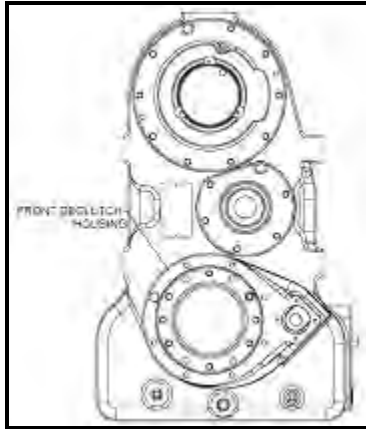

Figure 79
- Position the front declutch housing on the transfer case such that the shifter shaft bores are directly to the left of the lower shaft bore (as viewed when the unit is installed in the vehicle). See **Figure 79**.
installed in the vehicle as in **Figure 79**. Install the ten cap screws and washers to secure the carrier to the TC housing. Torque to specification.
- Position the transfer case with its front end (name plate) upward. The front declutch housing should already be installed. See **Figure 79**.